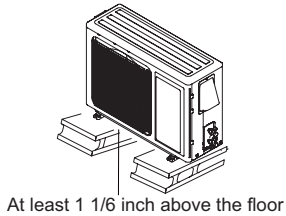

Fig.18
- (1) Take sufficient protective measures when installing the outdoor unit.
- (2) Make sure the support can withstand at least four times the unit weight.
- (3) The outdoor unit should be installed at least 1 1/6 inch above the floor in order to install drain joint.(As show in Fig.18)
- (4) For the unit with cooling capacity of 2300W~5000W, 6 expansion screws are needed; for the unit with cooling capacity of 6000W~8000W, 8 expansion screws are needed; for the unit with cooling capacity of 10000W~16000W, 10 expansion screws are needed.